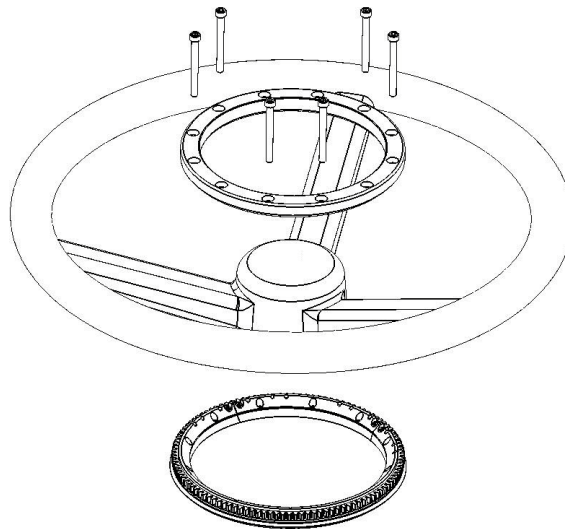

Figure 7 - Clamp Ring
2. Place the clamp ring on top of the steering wheel and install a minimum of 6 hex screws. Install a screw on each side of every spoke keeping the screws as close to the spokes as possible. At this stage keep the screws fairly loose to allow for centering. See Figure 7.